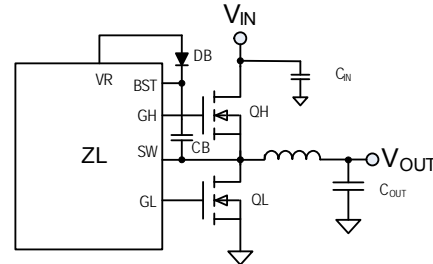

FIGURE 5. SYNCHRONOUS BUCK CONVERTER
Figure 5 illustrates the basic synchronous buck converter topology showing the primary power train components. This converter is also called a step-down converter, as the output voltage must always be lower than the input voltage. In its most simple configuration, the ZL6105 requires two external N-channel power MOSFETs, one for the top control MOSFET (QH) and one for the bottom synchronous MOSFET (QL). The amount of time that QH is on as a fraction of the total switching period is known as the duty cycle *D*, which is described by Equation 1:
The gate drive voltage for the high-side MOSFET driver is generated by a floating bootstrap capacitor, CB (see Figure 5). When the lower MOSFET (QL) is turned on, the SW node is pulled to ground and the capacitor is charged from the internal VR bias regulator through diode DB. When QL turns off and the upper MOSFET (QH) turns on, the SW node is pulled up to VDD and the voltage on the bootstrap capacitor is boosted approximately 5V above VDD to provide the necessary voltage to power the high-side driver. A Schottky diode should be used for DB to help maximize the high-side drive supply voltage.